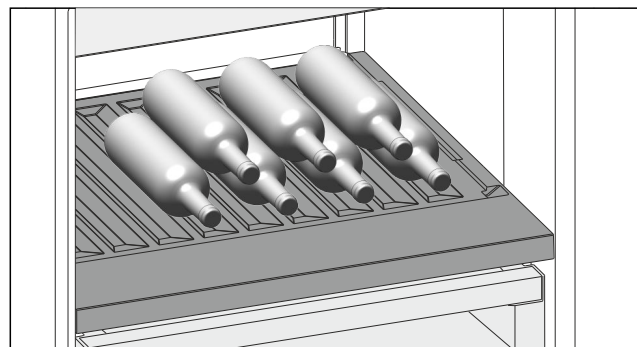

Fig. 145 Example illustration
- ▶ Place bottles in the back row with their bases against the back wall. (see Fig. 145)